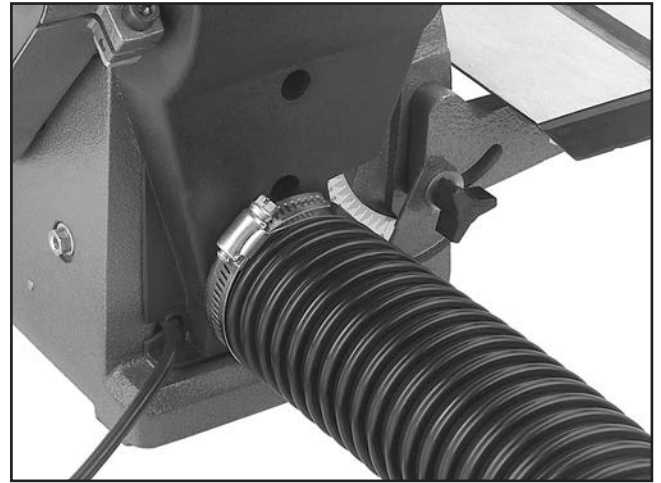

Figure 12. Dust hose attached to dust port.
1. Fit 2½" dust hose over dust port, as shown in **Figure 12**, and secure in place with hose clamp.